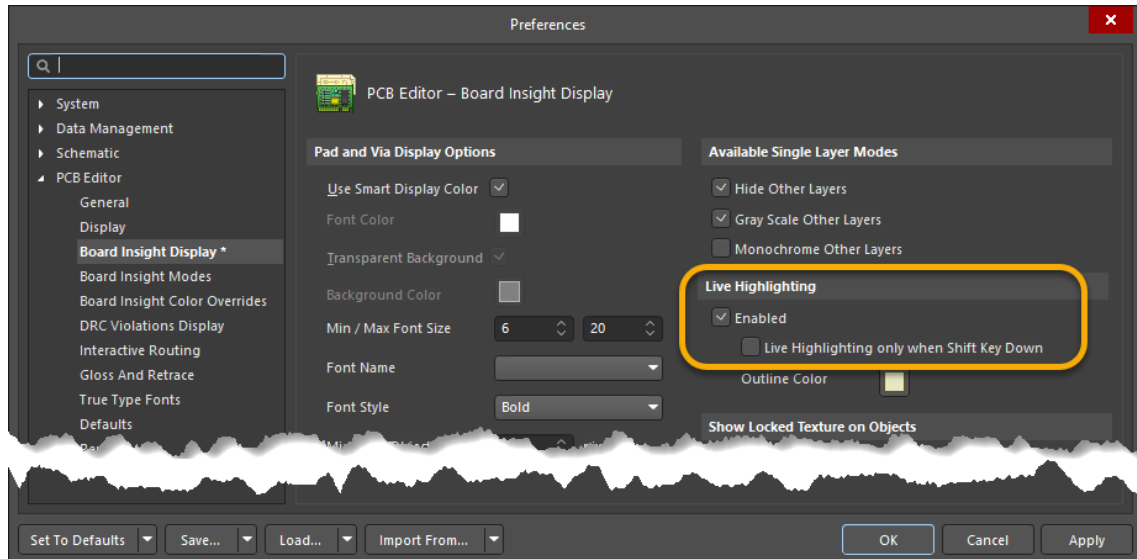

Figure 22. Live Highlighting only when Shift Key Down Option
56. Deactivate the Option **Live Highlighting only when Shift Key Down**, Figure 22.